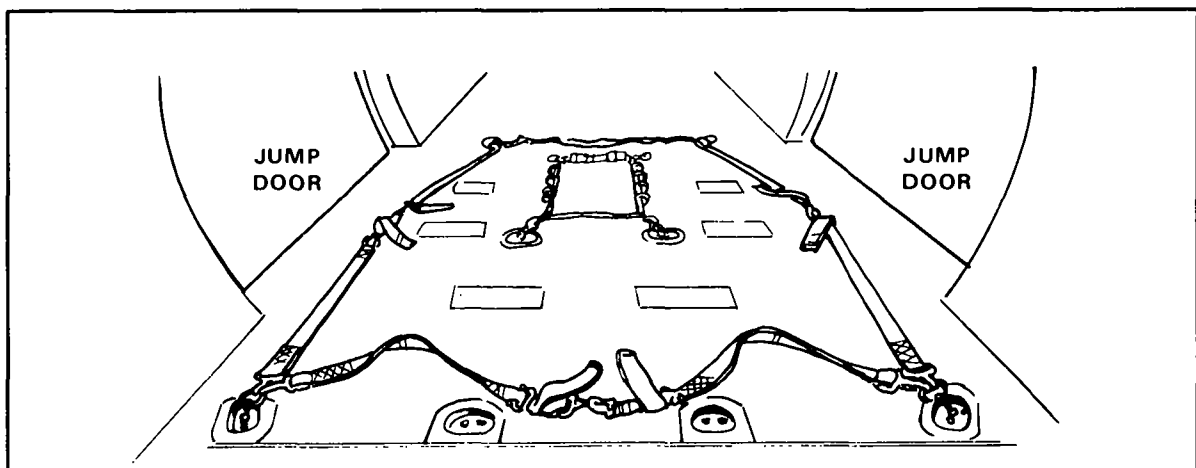

Figure 12-6. Compartment prepared for jumping.
a. **Preparation.** The following procedures prepare the UH-60A for jumping (Figure 12-6).
(1) Lock both cargo doors in the open position.